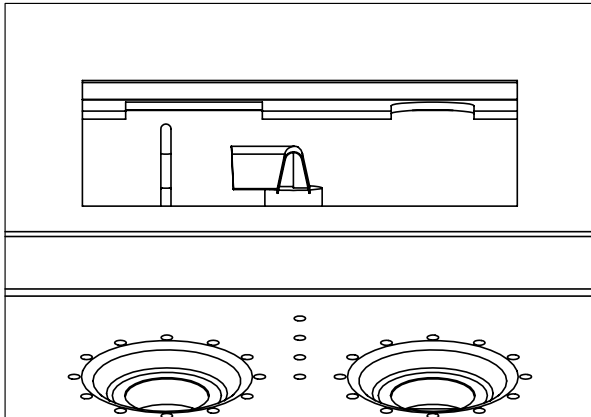

Figure 23: Pilot Orientation
4. Convert the existing pilot orifice with the one provided in this kit (see Figure 21) using a 7/16 inch wrench. Fully unthread and remove the pilot head and replace the orifice insert. Retighten pilot, if head does not reach proper orientation in the snug position then contact your Enviro dealer (see Figure 23).